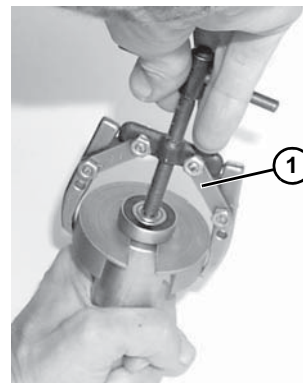

Figure 37
2. Using a puller part #807-1716 (**Figure 37, item 1**), remove and discard bearing.